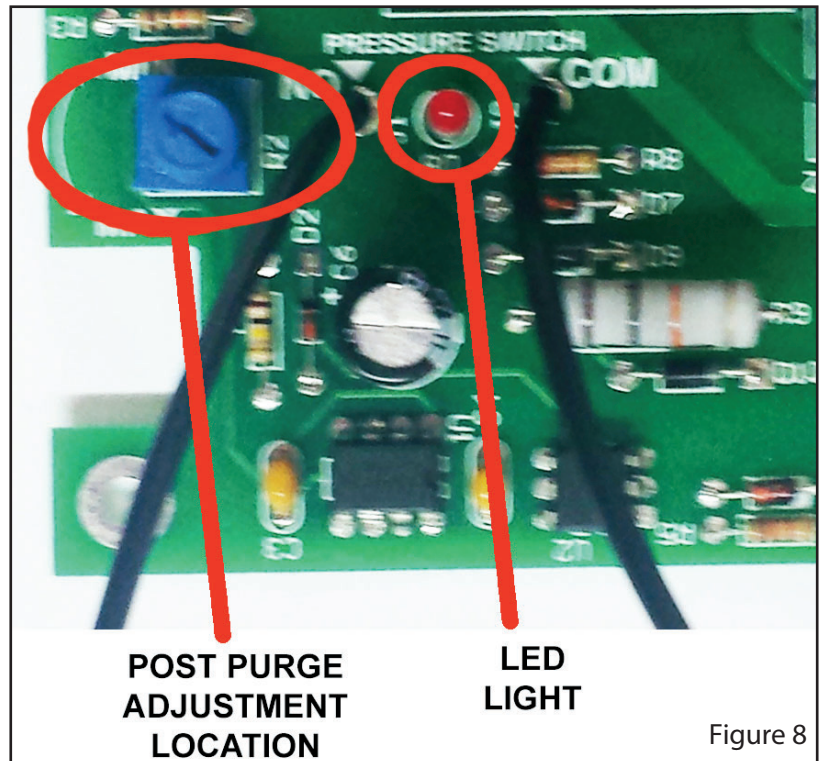

Figure 8
To adjust the post purge time, rotate the timer adjustment on the timer clockwise to increase the operation time. To decrease the operation time, rotate the timer adjustment counterclockwise. (See Figure 8) Typical post purge time should be between 3 to 5 minutes. If running burner simultaneous with venter, 1-3 minutes is suggested.
- c. Pressure switch closes and burner starts. The LED light indicates power to T3. When the pressure switch closes with a call for heat, the LED light will come on. This indicates that the burner should be in a burn cycle. (See Figure 8)